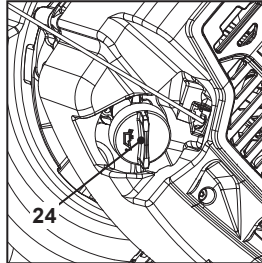

Fig. 9
1. Untighten and remove the oil tank cap (24) (Fig. 9).